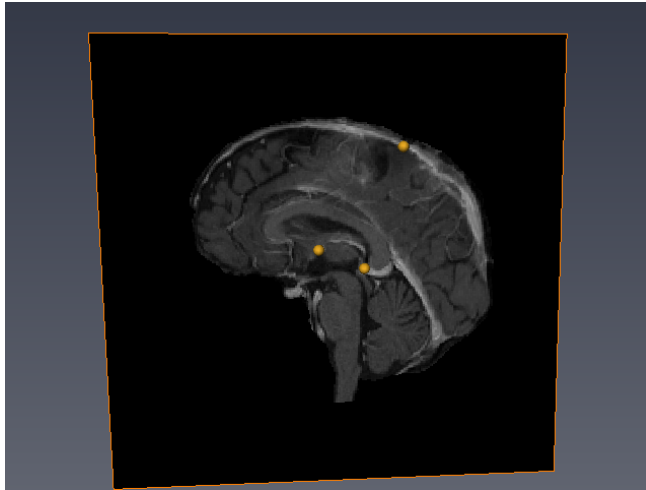

Figure 12.3: Rendering of a yz-slice through the brain with the selected landmark locations indicated by three golden spheres.
- Click on one of the landmark buttons in the *Select* port of the *Convert Talairach Properties* and make a new selection on the slices through the brain (Fig. 12.3).